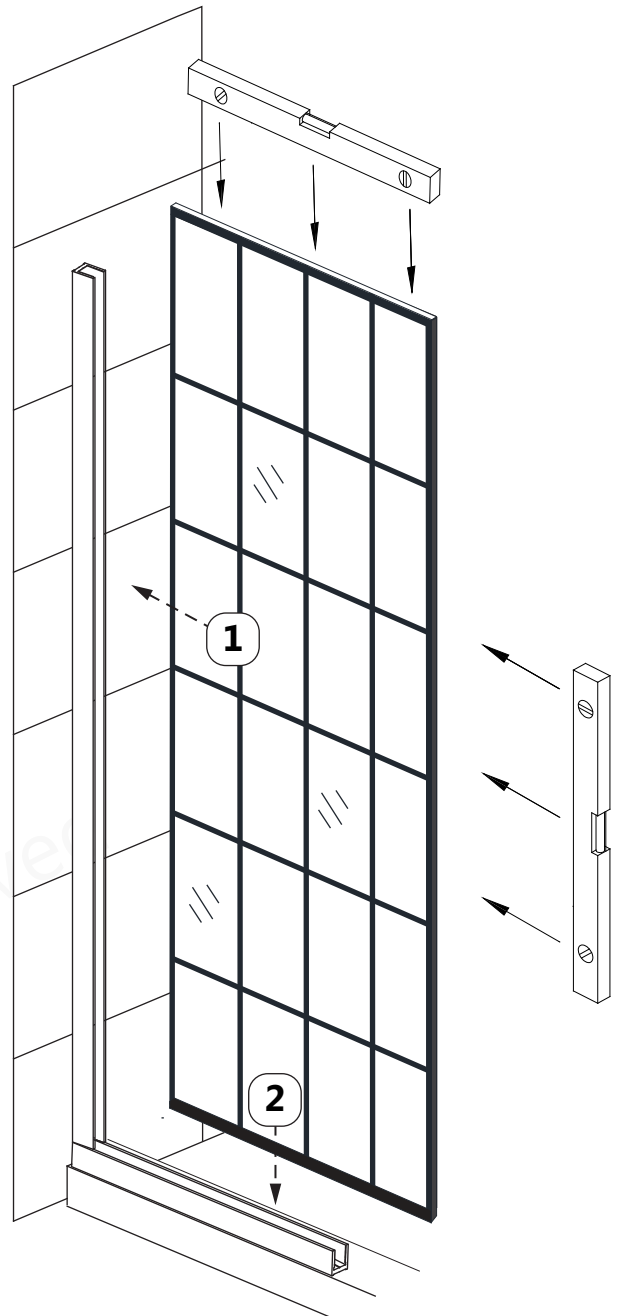

Fig 8
8. Install the **Stationary Glass (#11)** into the **Vertical U-Channel (#09)** first and then slide it down into the **Bottom U-Channel (#29)**. Check for level and plumb. **(Fig 8)**